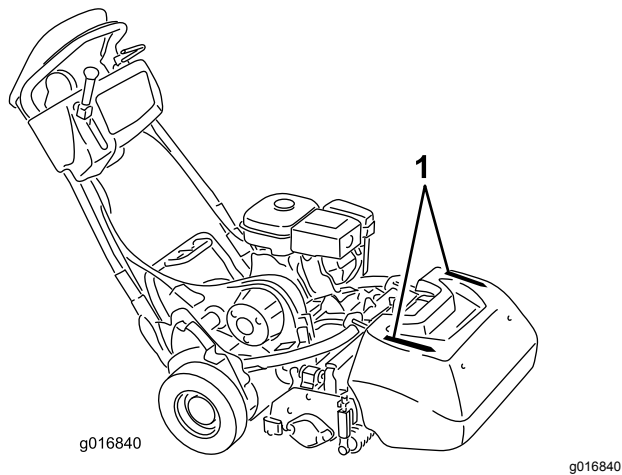

Figure 29
- To assist in maintaining a straight line across the green and to keep the machine an equal distance from the edge of the previous cut, use the alignment stripes on the basket (Figure 29).